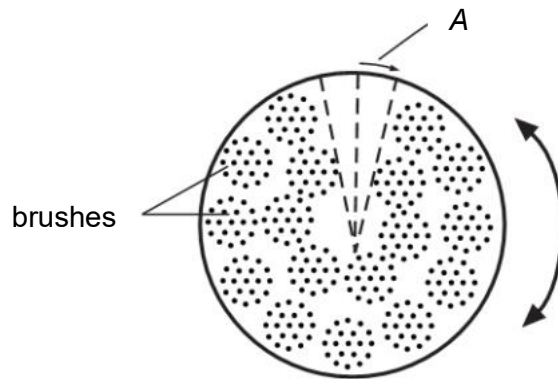

Fig. 8.3
- (c) On setting 2, the brush head can be considered to oscillate with simple harmonic motion with amplitude A as shown in Fig. 8.3.